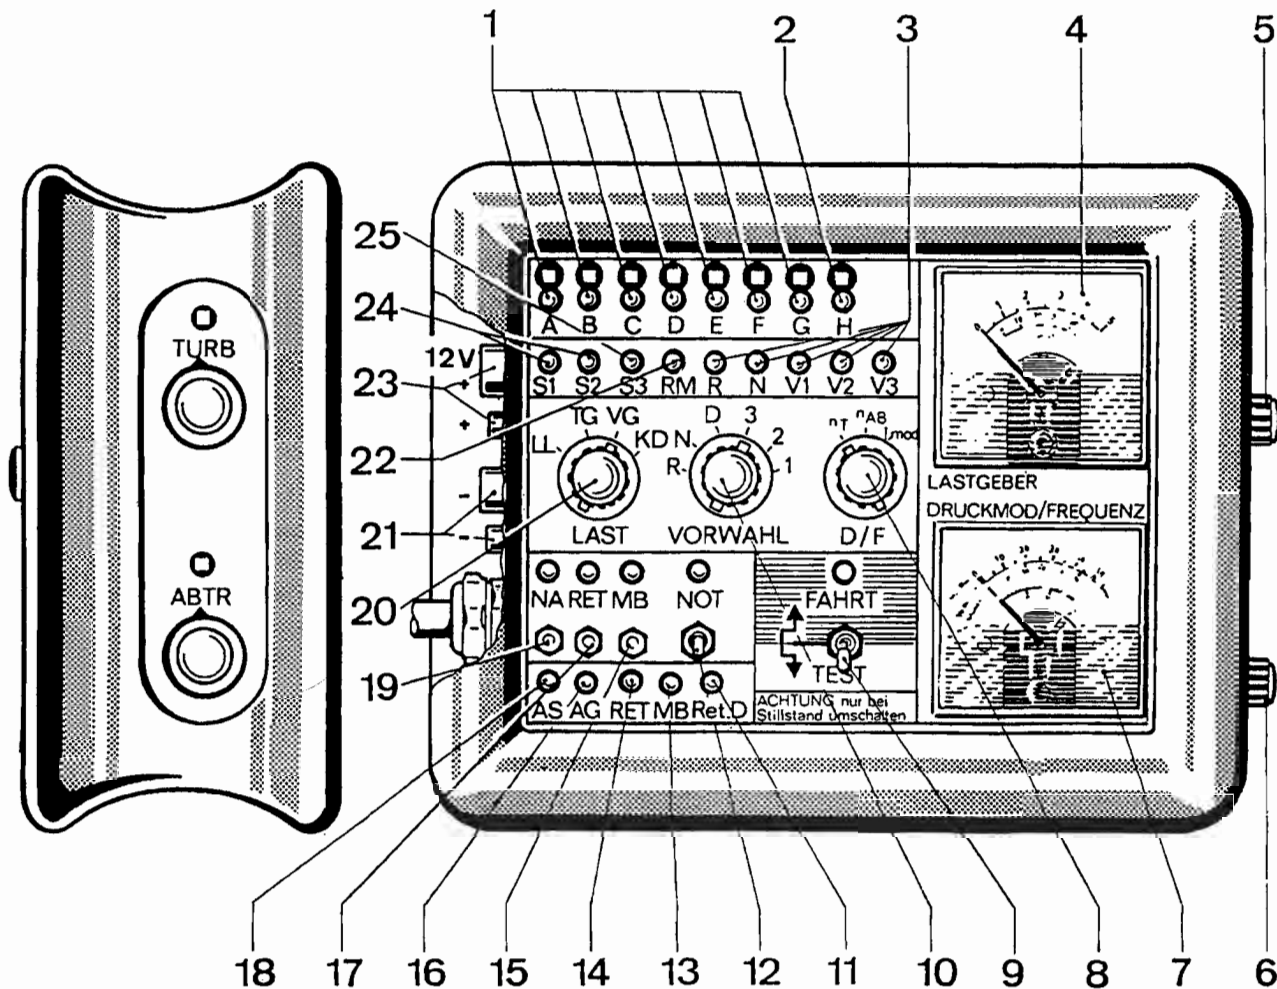

Fig. 5
1.4.8 Set transmission shift selector (No. 10 on Fig. 5) to "N" and back to "D".